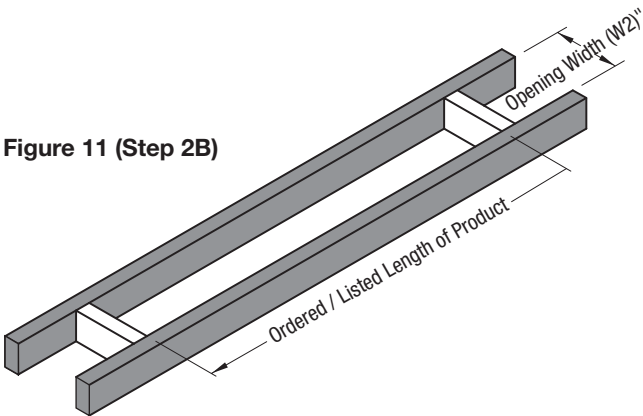
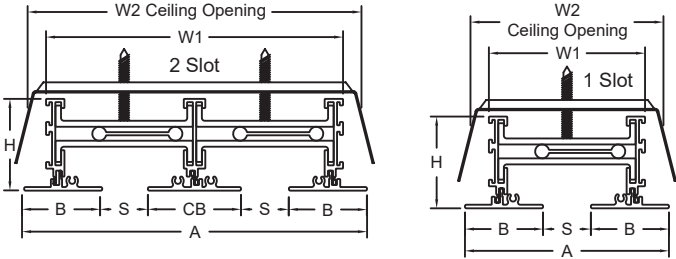

Figure 11 (Step 2B)
Figure 12 (Step 2B): LAD-CM Cut Section (-AA shown) Sub Frame Installed in Framing
- B. In general, the length of the opening within the framing should be the ordered/listed size (see Figure 11) and the opening width should be the “W2” Dimension. For convenience, we have provided the dimensional drawing (see Figure 12) and dimension table (see Figure 13) from the LAD-CM submittal (please note the most up-to-date information will be on the submittal).